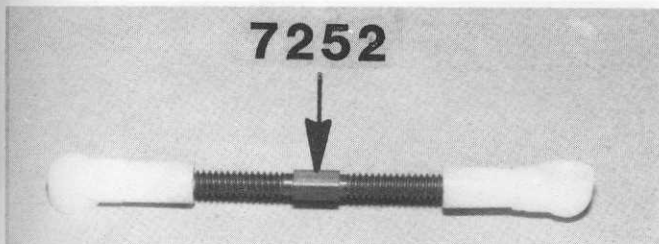

Fig. 132
□ **Figs. 132 & 133** Position the arm on the servo straight up. Center the servo saver left to right. Now measure the distance between the center of the ball on the servo arm and the center of the ball on the servo saver and make the #7552 final turnbuckle to that length. Snap on the turnbuckle.